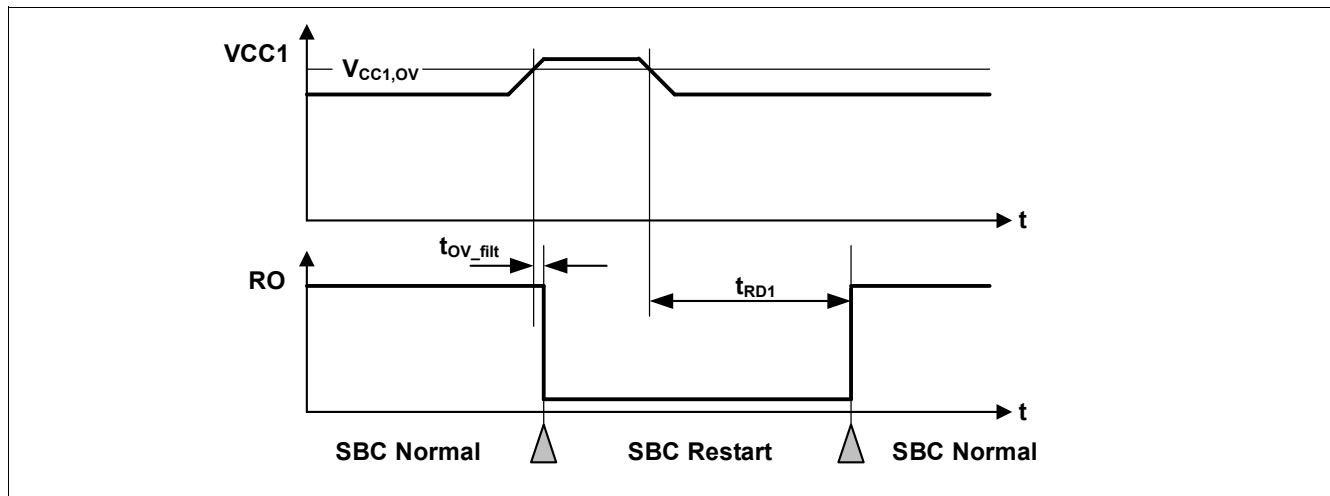

Figure 45 VCC1 overvoltage timing diagram
- If the bit **VCC1_OV_RST** is set, SBC Restart mode is entered. A reset event is generated. The SBC exits the SBC Restart mode and SBC Normal mode is resumed after the VCC1 over voltage is not present anymore (see also Figure 45)